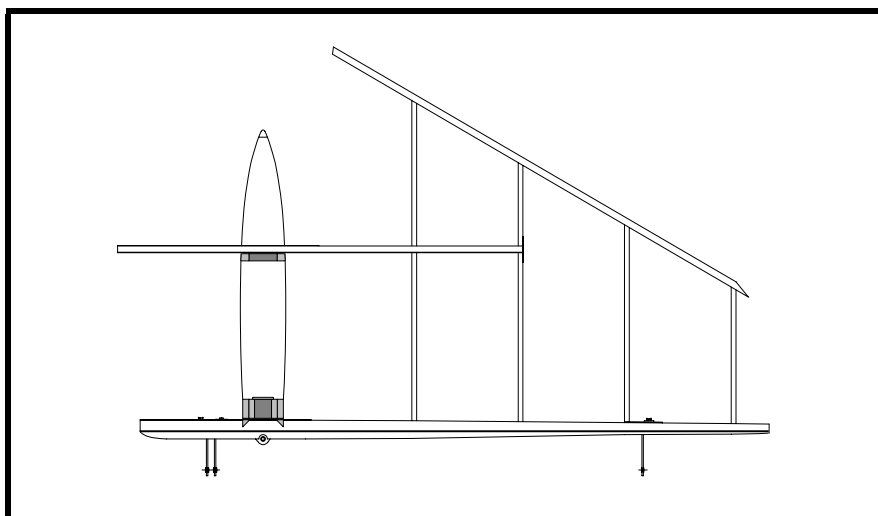

Figure 9
- ❑ Fit the leading edge strip to the ribs and clamp in place. See Figure 9. Check the fin for alignment. See Drawing No. 415 for the dimensions for the leading edge strip.